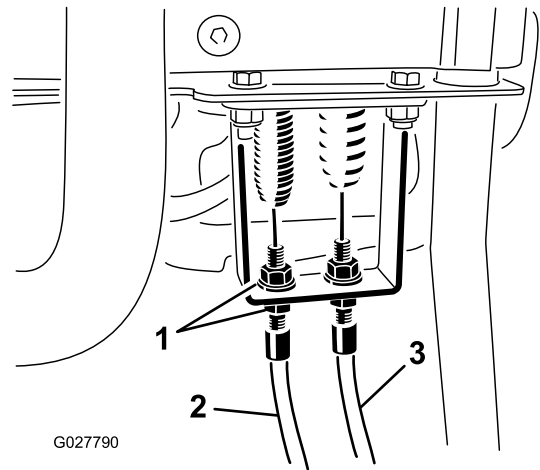

Figure 50
3. At the control-handle bulkhead, loosen the reel-control cable until there is slack in the cable (Figure 50).